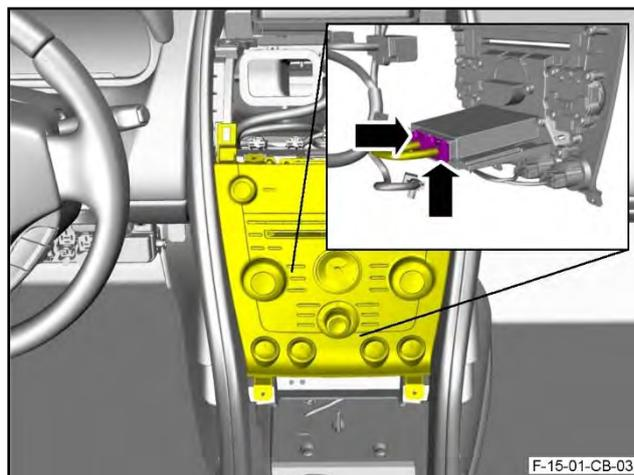

Figure 54
65. Disconnect the two electrical connectors from the Centre Console Module (CCM) (refer to Figure 54).